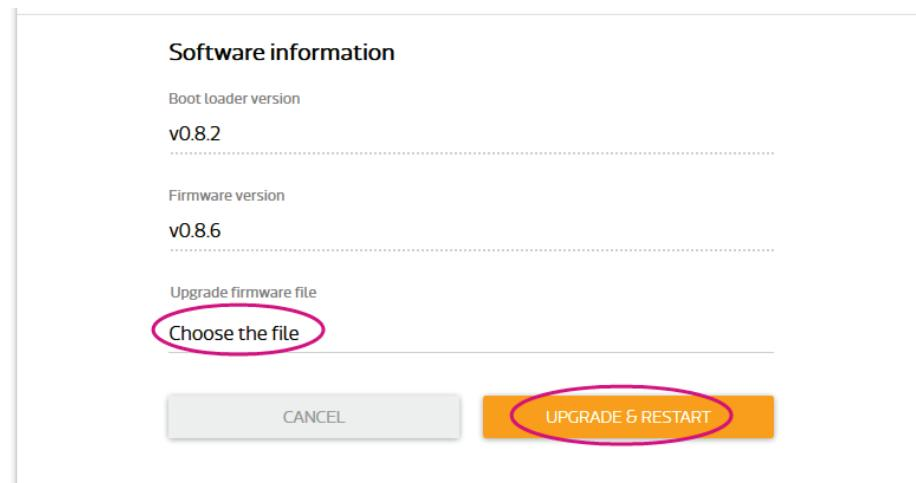

Figure 17 Selecting firmware file
- 3) Click under **Upgrade firmware file** and choose the lks7688.img file. Click **Upgrade & Restart** button as shown in Figure 17.